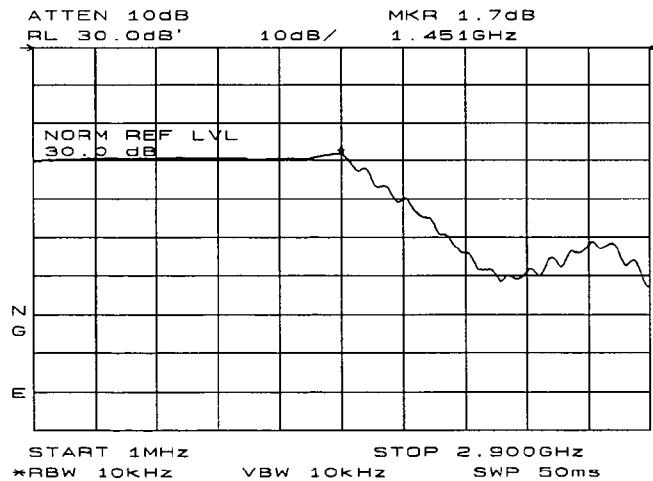

Figure 3-28. NORM REF LVL is a trace function.
By increasing **NORM REF LVL** to 30 dB, as shown in Figure 3-28, the trace moves down on the screen. Note the following three instrument parameters: (1) the input attenuator value still remains at 10 dB, (2) the marker-amplitude readout displays 13.2 dB, and (3) the ERR 903 A>DLMT error message is still displayed, even though the signal appears to be fully within the graticule.
Hence, Figure 3-28 shows that **NORM REF LVL** is a trace function that can position the active trace without changing analyzer settings. The **ERR 903 A>DLMT** error message is an indicator that the actual measured trace may fall outside of the analyzer's measurement range with the current settings. By adjusting **RANGE LVL**, thereby changing the input attenuator and IF gain, compression-free measurements are assured.